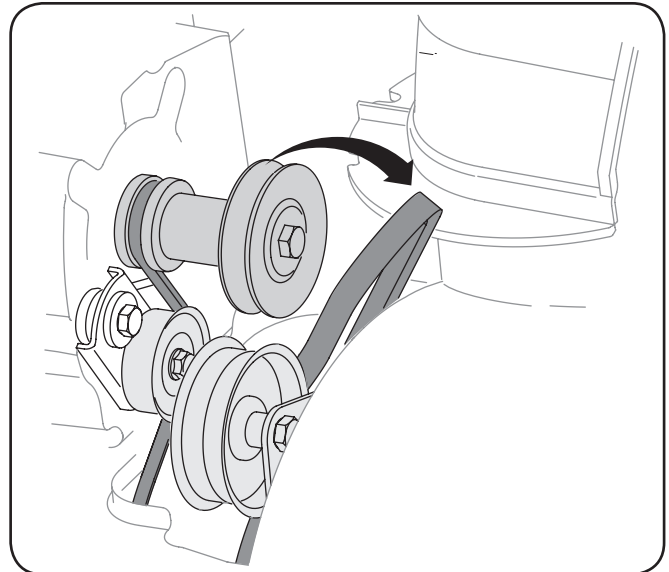

Fig. 7-3
3. Remove the frame cover from the underside of the snow thrower by removing the self-tapping screws which secure it. Refer to Fig 7-3.
4. Roll the auger belt off the engine pulley. See Fig. 7-3.